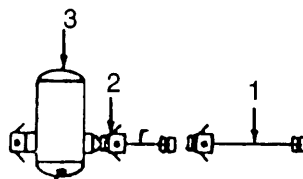

Figure 4-20. Water Detector Adapter, Removal/Installation.
- a. **Removal.** (Refer to Figure 4-20.)
- (1) Pull upon camlock levers and remove suction hose assembly (1),
- (2) Pull upon camlock levers and remove adapter (2) from filter/separator (3).
- (1) Refer to Figure 4-20 and pull upon camlock levers and remove dust plug and dust cap.
- (2) Position adapter (2) on fitter/separator (3) outlet fitting. Secure by pushing down on camlock levers.
- (3) Install suction hose (1) and secure by pushing down on camlock levers.